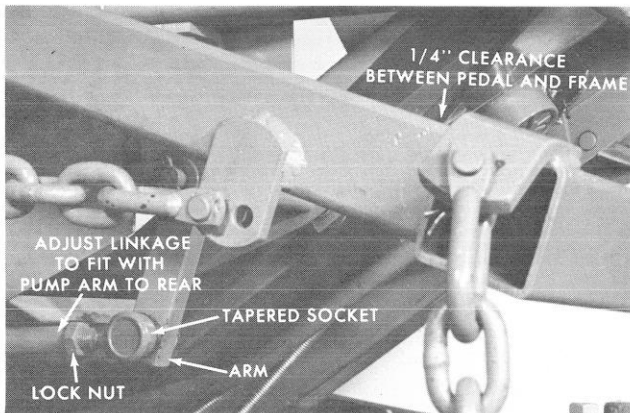

Figure 44
1. Disconnect the tapered socket from the arm on the pedal shown in Figure 44.
3. Hold the pedal assembly in the position shown in Figure 44, with 1/4" clearance between the bottom of the pedal and the frame.